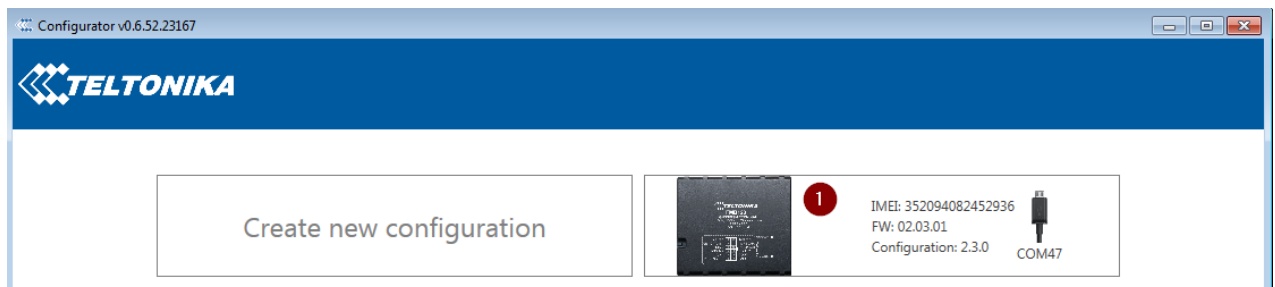

Figure 42 FMB1YX configurator connected devices window
- Launch **FMB Configurator** and connect to device as shown in **Figure 42** below.